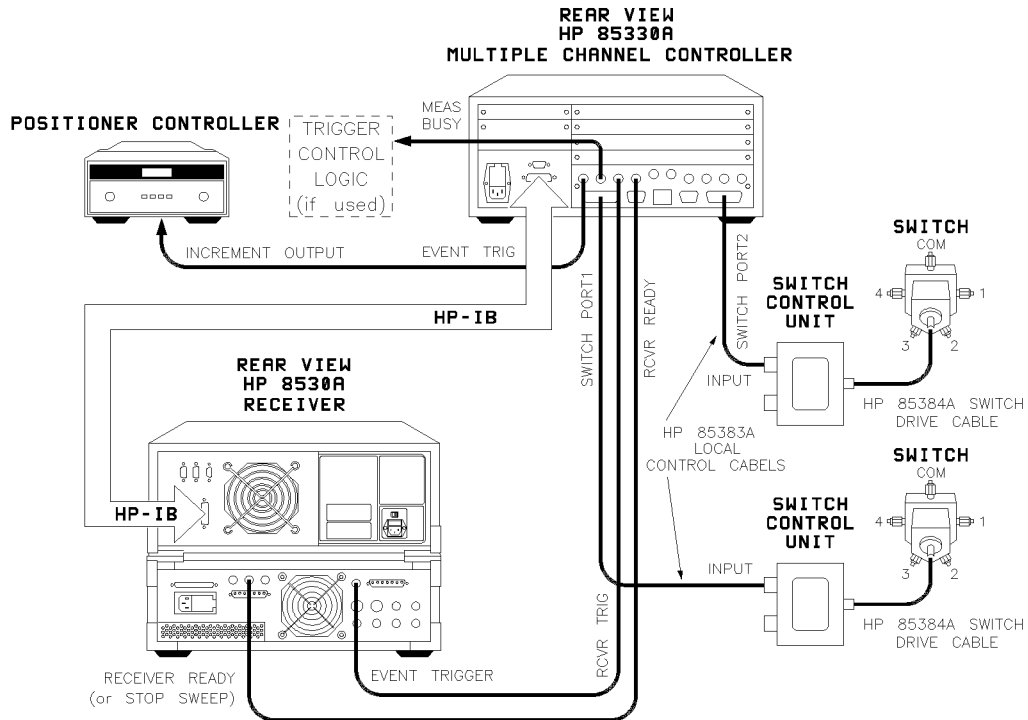
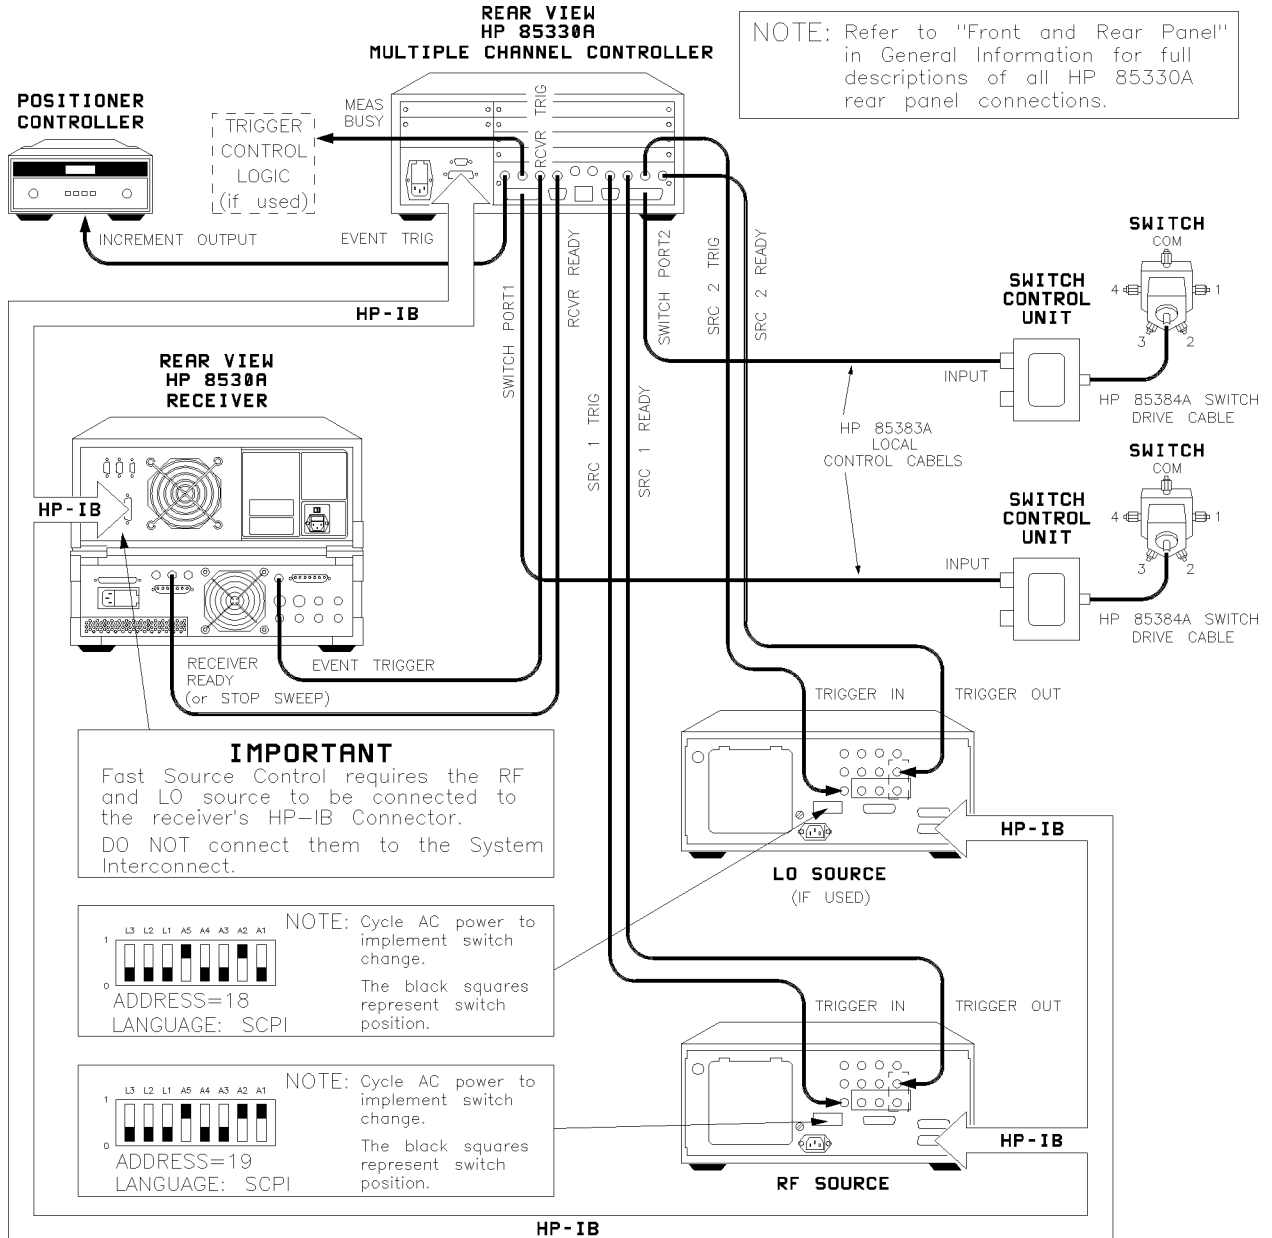

Figure 1-2 HP 85330A Installation Diagram for HP 8530A Source Control
Figure 1-3 HP 85330A Installation Diagram for Fast (TTL) Source Control
Follow the flow chart from the top. Determine if your measurements are made with a single frequency (CW), or multiple frequencies. Proceed down the appropriate flow chart path. Proceed in this way until you get to a box that recommends either Figure 1-2 on page 1-4, or Figure 1-3 on page 1-5.
lines. More information is provided in Chapter 6, “Programming”. When the sources are controlled by a computer, the SCPI language mode must be selected. This is shown in Figure 1-3 on page 1-5.
If the receiver does not have the RECEIVER READY, as shown in Figure 1-2 on page 1-4 and Figure 1-3 on page 1-5, then the STOP SWEEP may be used.